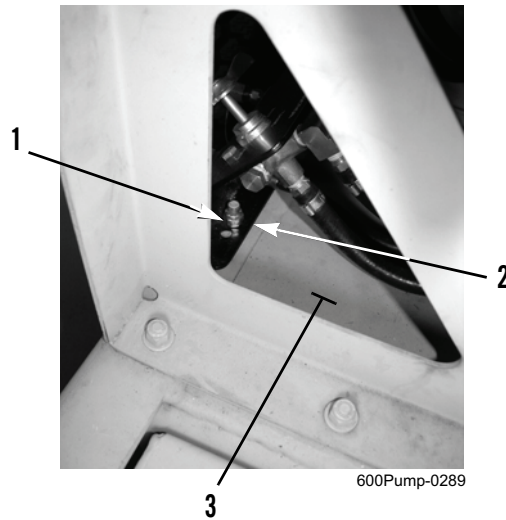

Figure 8. Fuel Selector Panel.
12. Install fuel selector panel (Figure 8, Item 2) on trailer (Figure 8, Item 3) with two new locknuts (Figure 8, Item 1).